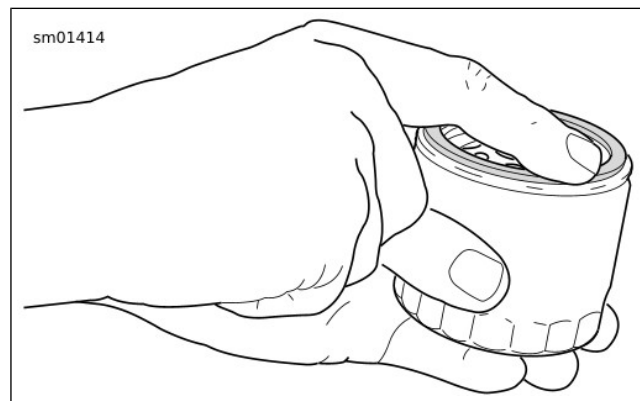

Figure 67. Lubricating New Oil Filter Gasket
7. See Figure 67. Install **new** oil filter.